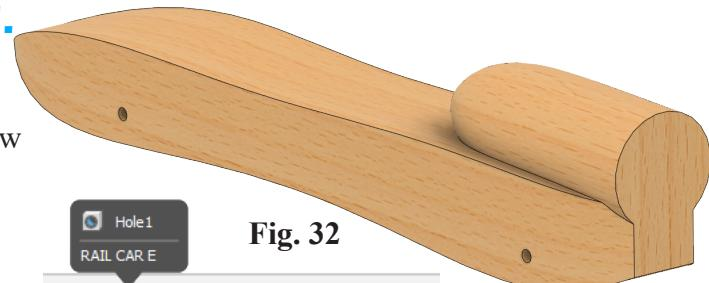

Fig. 32
Step 1. Rotate view to view Cartridge Hole, Fig. 32. Hold down middle mouse button (wheel) and drag to rotate view